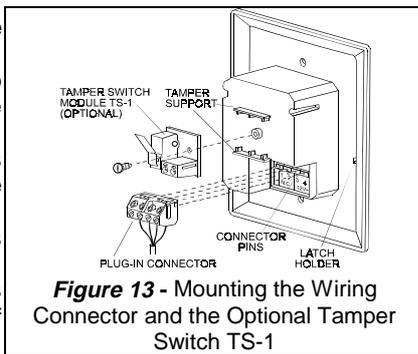

Figure 13 - Mounting the Wiring Connector and the Optional Tamper Switch TS-1
B. Due to its sealed design, the MR-4000 can also be installed directly into a prepared space in the wall, without requiring a box enclosure. Figure 13 provides an actual size cutout drawing which may be used when drilling the holes in the wall.
Tamper switch module TS-1 must be installed first (see Fig. 13). Connect Tamper TS-1 terminals to a normally closed 24-hour protection zone of the control panel. Tamper contact will open when the cover is removed.